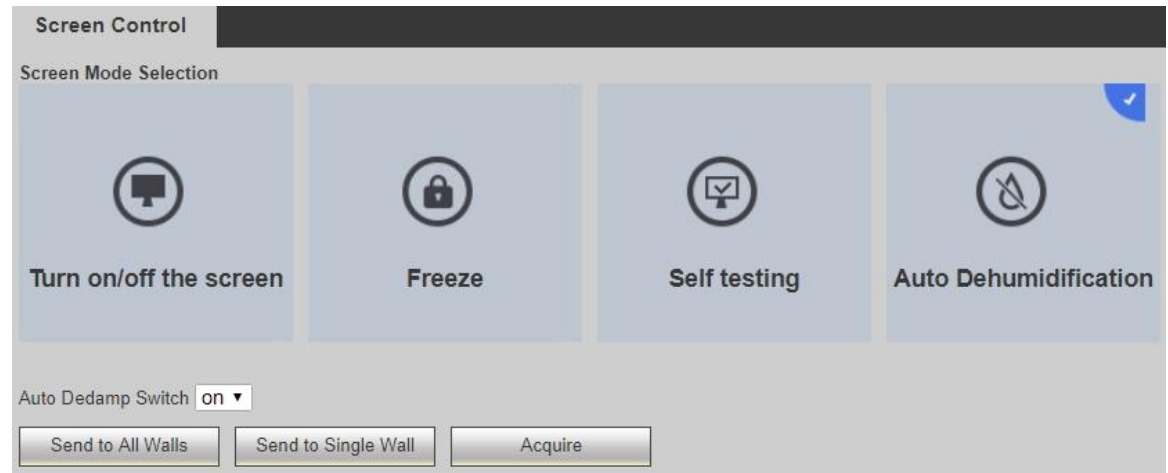

Figure 3-93
Step 1 Select "Auto Dehumidification", as shown in Figure 3-93.